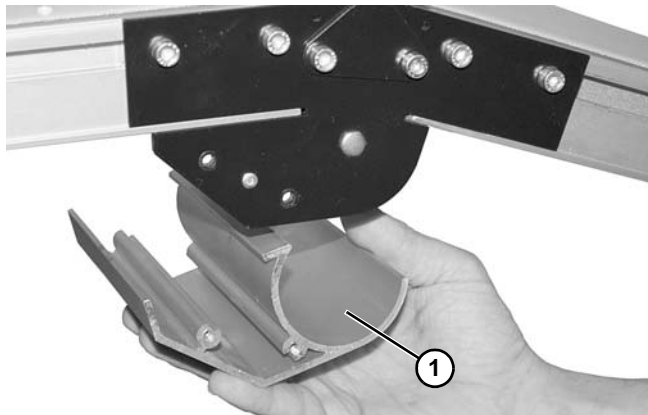

Figure 133
2. Remove guard (Figure 133, item 1).